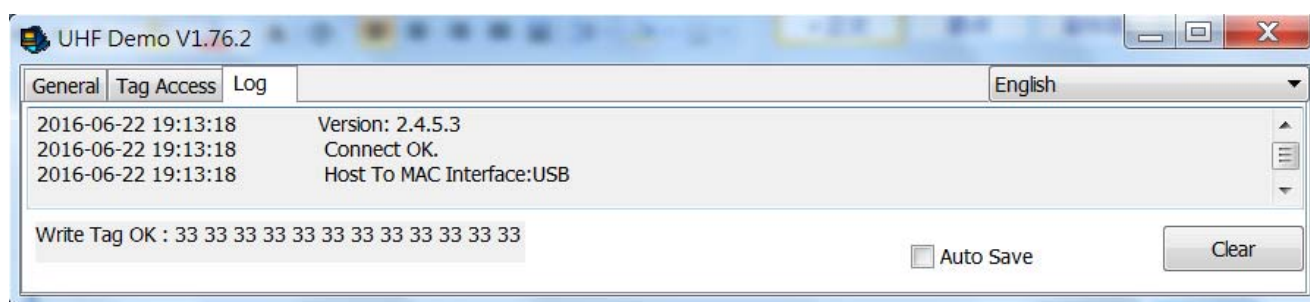

Figure 2.12
A. Click on the "Log" button enter into operation can check card device operation records; As shown in figure 2.12: